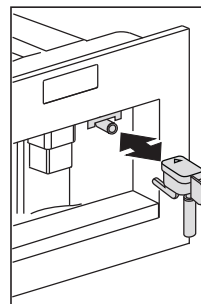

Fig. 13
- Make sure the water spout is in place and attached to the nozzle (Fig. 13).